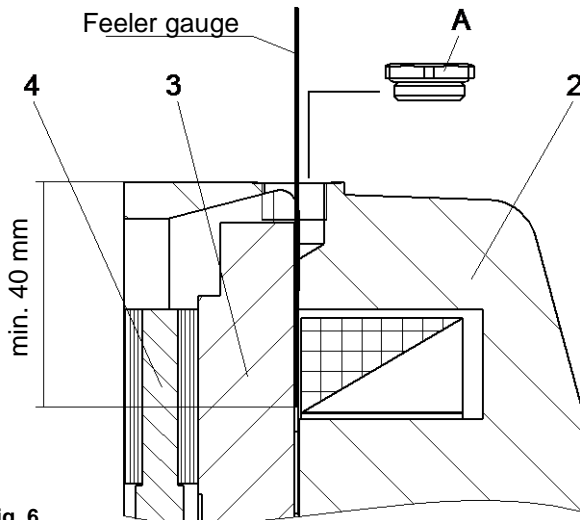

Fig. 6
The air gap can be inspected via a feeler gauge after removing the screw plug (A). The feeler gauge must be inserted at least 40 mm deep (see Fig. 6), so that the distance between the armature disk (3) and the coil carrier (2) can be measured.